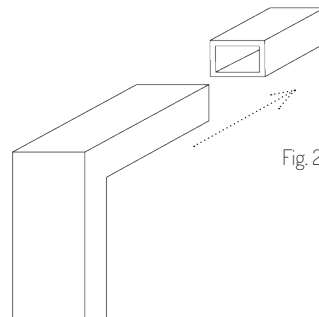

Fig. 2
4. place the NALI over the sleeves and screw the grub screws into the pre-drilled holes using the Allen key. (Fig. 2 & 3)